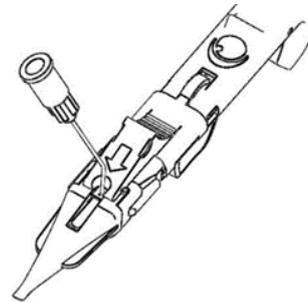

Fig. 6
8. Introduce the cannula (23G or bigger) of a syringe filled with viscoelastic material into the small aperture in front of the red stopper. Inject the viscoelastic material through the aperture as shown in Fig. 6. Filling the cartridge nozzle up halfway should suffice.